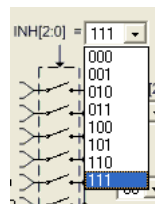

Figure 3-20
- (1) Click the network by mouse, INH can select the specified network.
- (2) Click the network switch by mouse, INH can select the specified network.
- (3) Click the mouse, a menu as Figure 3-20 will appear and users can select the switch network.